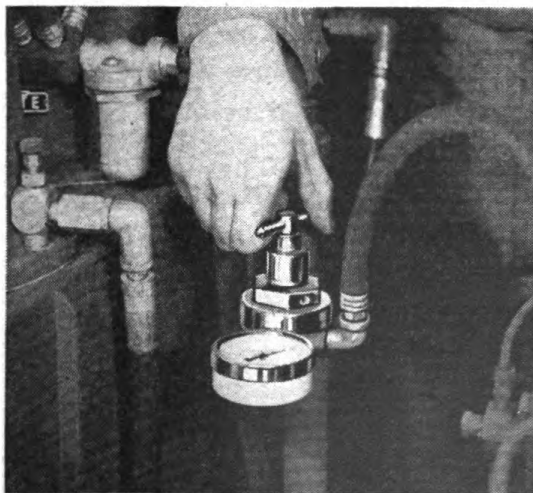

Figure 14
a. As air pressure in receiver is built up, the four pumps mounted in the lubricant tank will start to operate, and will continue until pressure is built up in the hose. The air compressor will automatically load when pressure in the receiver drops below 160 pounds per square inch (See gauge mounted on side of receiver). The amount of air pressure to the lubricant pumps may be reduced, if desired, by adjusting the air regulator (See Figure 14) installed in the main air-line to pumps. A maximum of 150 pounds air pressure is recommended for efficient pump operation.